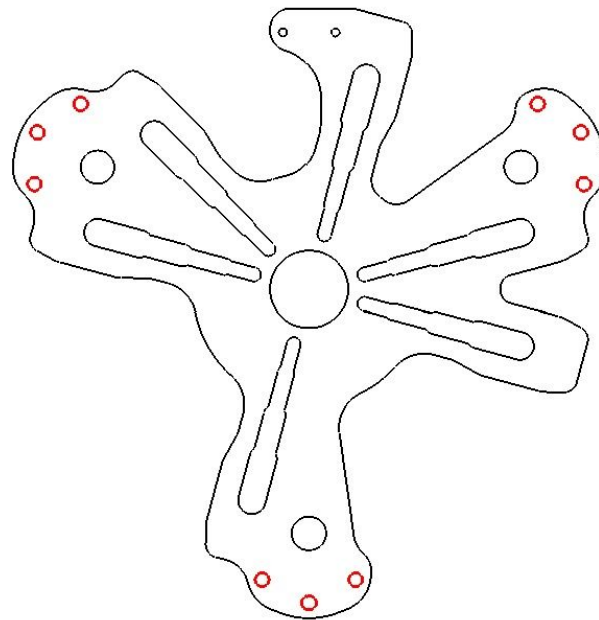

Fig. 4.38: Use the nine highlighted holes shown here to align with the load measurement unit
- ❑ Align the nine M5 holes on the motor mount with the M5 male-female standoffs on the load measurement unit. See Fig. 4.38.